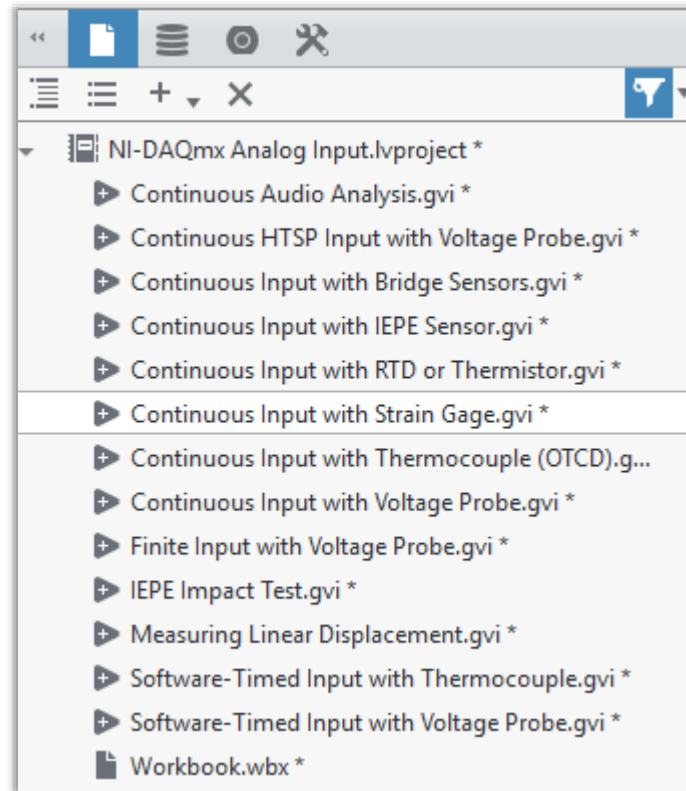

Figure 5-24 Example programs are pre-built and ready to run. They serve as a great starting point for your measurement applications.
45. This example is a project with a variety of pre-built analog input applications for different measurement types. You can see all the included VIs in the Navigation Pane, as shown in Figure 5-24.